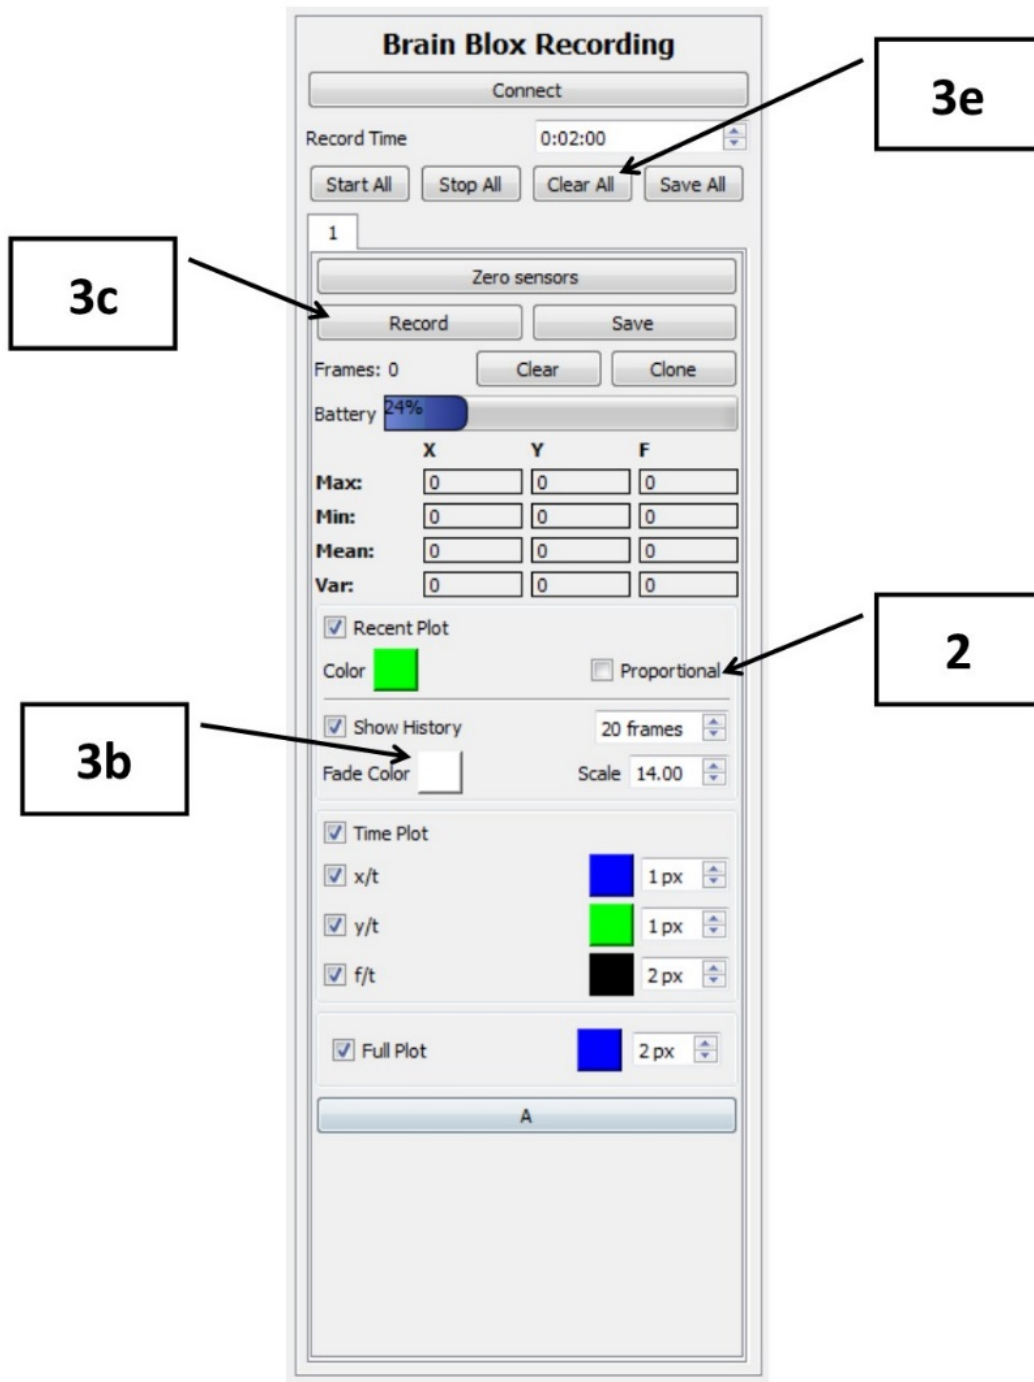

Figure 4: A screenshot of the BrainBLOX control panel with labeled steps for the acclimation activity
1. Use Figure 4 on the following page to help you navigate Part 1 of this activity.